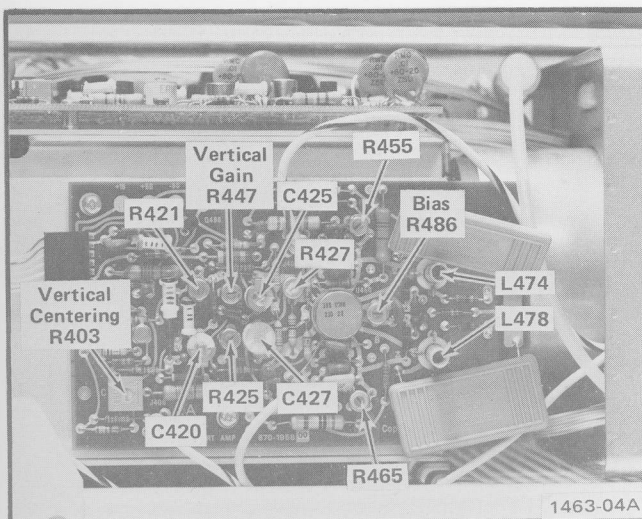

Fig. 3-3. Location of vertical system adjustments (Vertical Output board).
d. ADJUST—Bias R486 for maximum gain. (See Fig. 3-3).
c. ADJUST—Vertical Centering adjustment R403 (see Fig. 3-3) to position the trace to the center horizontal line.
d. ADJUST—Vertical Gain adjustment R447 (see Fig. 3-3) for exactly six divisions of deflection between the second and eighth traces.
- d. ADJUST—High-frequency compensation as given in Table 3-2 for optimum square leading corner and flat top with minimum aberrations within limits given in part c. Location of adjustments is shown in Fig. 3-3. Use the low-capacitance screwdriver to adjust the variable capacitors. Repeat the complete adjustment procedure several times to obtain optimum adjustment.